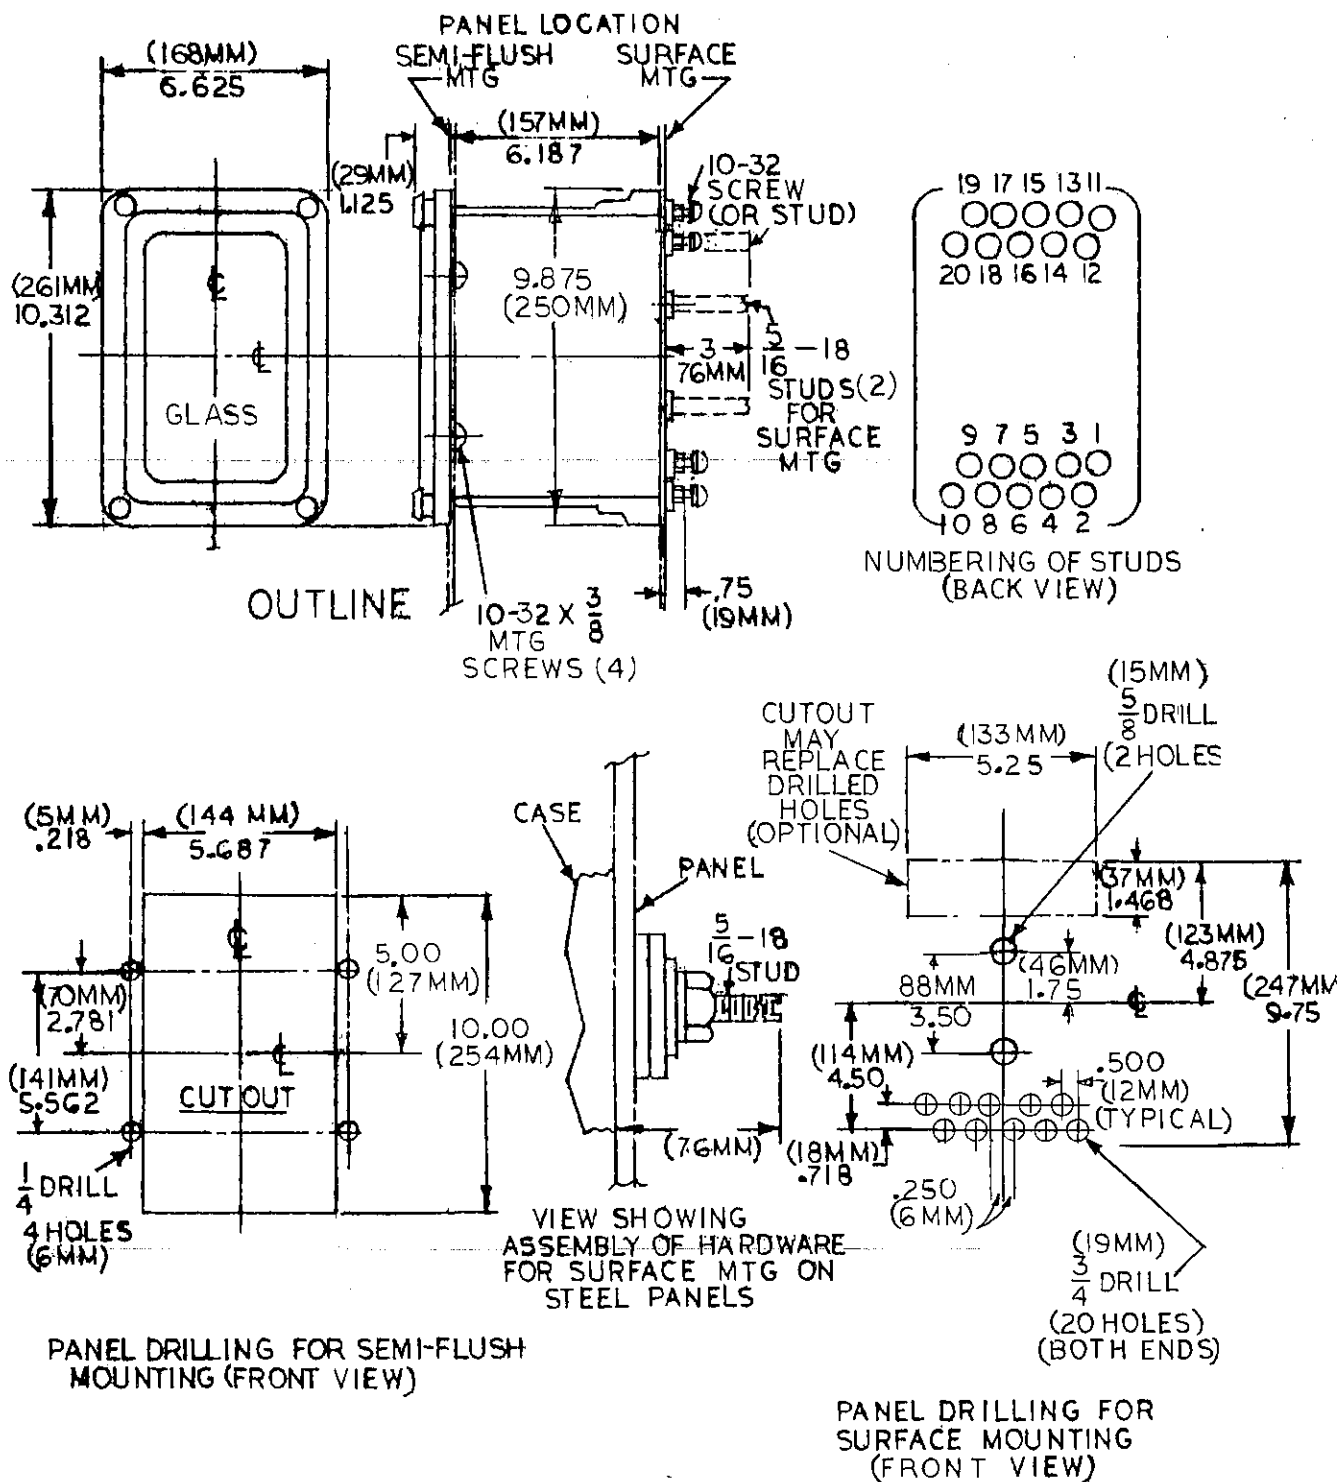

Fig. 13 (006209272) Outline and Panel Drilling Dimensions for SLR Relay
- Fig. 13 Outline and Panel Drilling Dimensions for SLR Relay